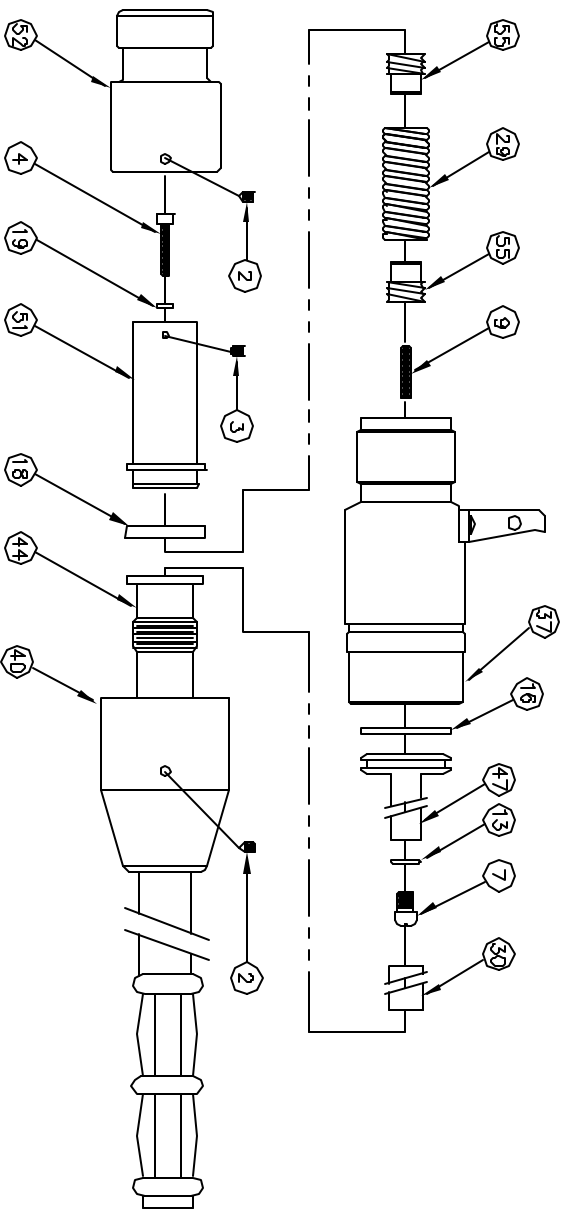

FIGURE 7
3. Hold the tool with the crimping head down on a clean surface and remove set screw 2 (see Figure 7), and unscrew cover 40 along with the handle assembly.
REMOVAL OF RAM LIP SEAL: (SEE FIGURE 7)
2. Pump the tool handle several strokes to expose screw 3 located in ram 51 {see Figure 7}. Fully remove screw 3 and withdraw swivel 14 and slide 4 {see Figure 5}.
CAUTION: AFTER REMOVING SLIDE ASSEMBLY, FULLY RETRACT RAM 51 (SEE FIGURE 7).
NOTE: Care should be taken to ensure that crush washer 19 is replaced (see Figure 7).